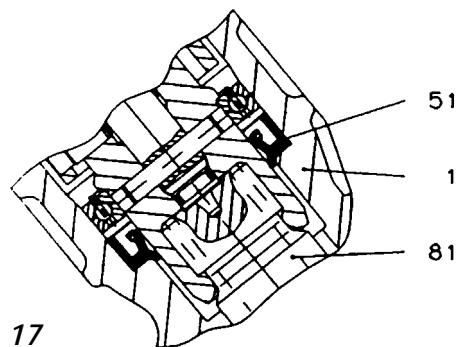

Fig. 17
Installed position of the shaft seal (51) see **Fig. 17**.
Installed position of the shaft seal (51) *see Fig. 17*.